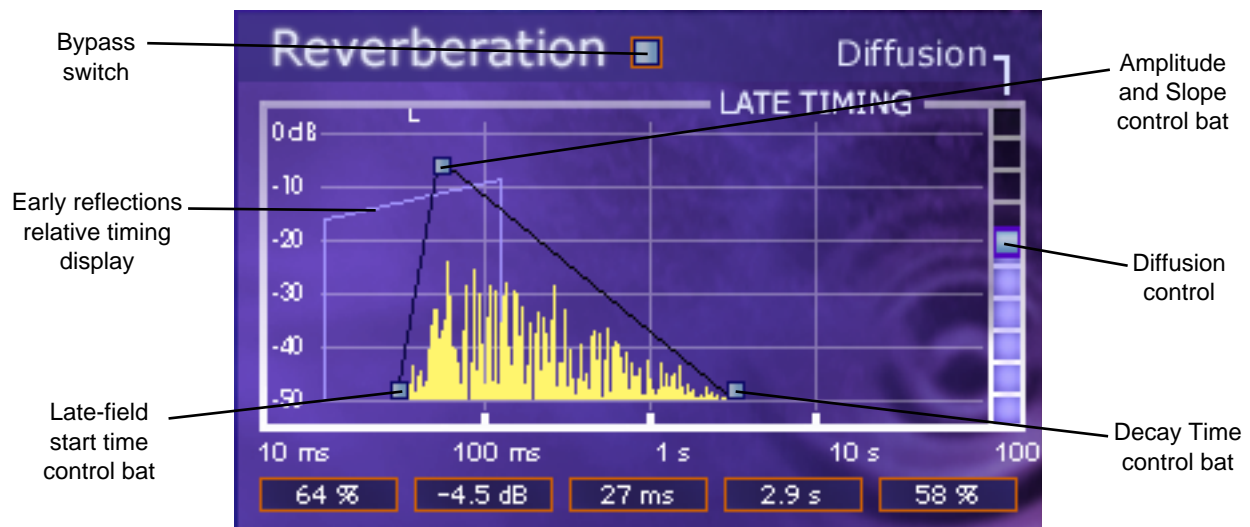

Figure 75. DreamVerb Reverberation panel
Note: While materials are used to control decay rates as a function of frequency, the overall decay rate of the late-field reverberation is controlled from the Reverberation panel (see Figure 75 on page 153).
The Reverberation panel (Figure 75) contains the parameters that control the late-field (LF) reverb tail for DreamVerb.